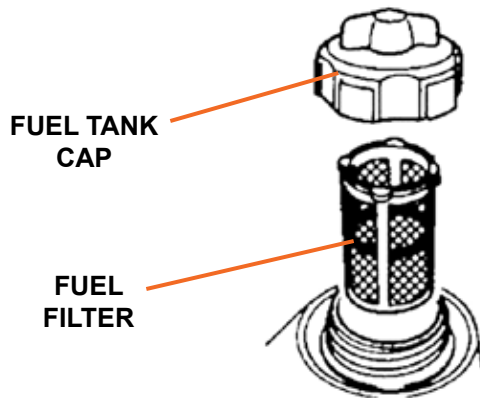

Figure 11
1. Remove the fuel tank cap and filter (see Figure 11).